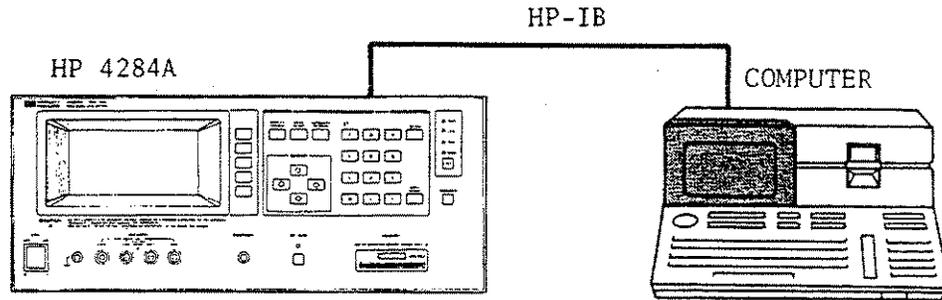

Figure 10-8. HP-IB Interface Test Setup
2. Set up the equipment as shown in Figure 10-8. Use the computer's interface Select Code (7).